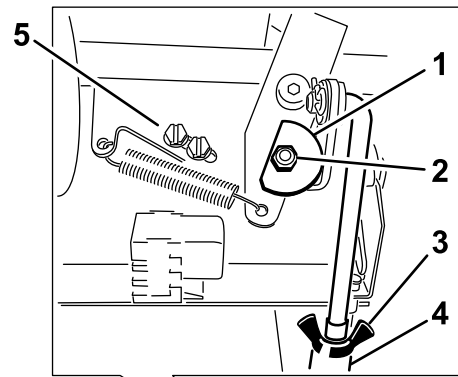

Figure 44
11. If needed, loosen the screws holding the switch and adjust the switch (Figure 44).
7. Loosen the nut and bolt holding the cam (Figure 44).